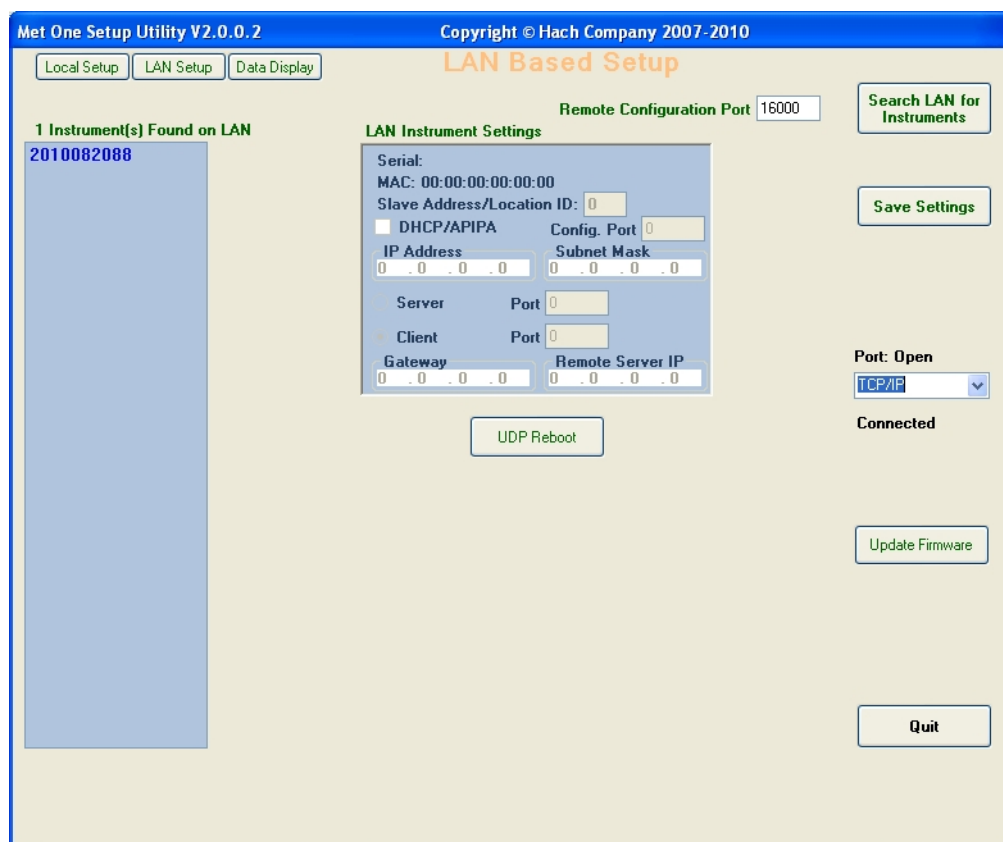

Figure 11 LAN setup for Ethernet units
1. In the utility program, select **LAN SETUP**. The LAN Based Setup window will be shown (Figure 11). The software will search for LAN instruments.
2. If LAN instruments are found, the instruments will be listed as shown in Figure 11. Select an instrument to show the LAN Instrument Settings.